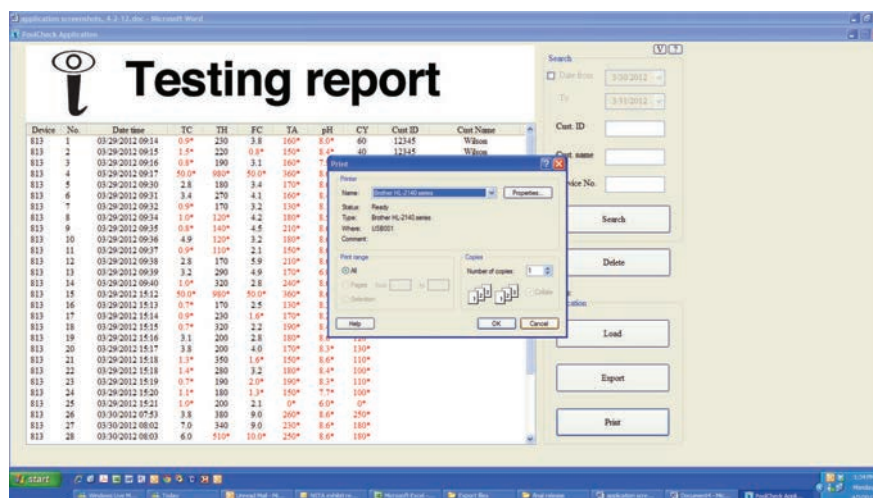

Figure 9 - Printer dialog box
2. Follow the prompts in the dialog box to print the data (Fig 9).